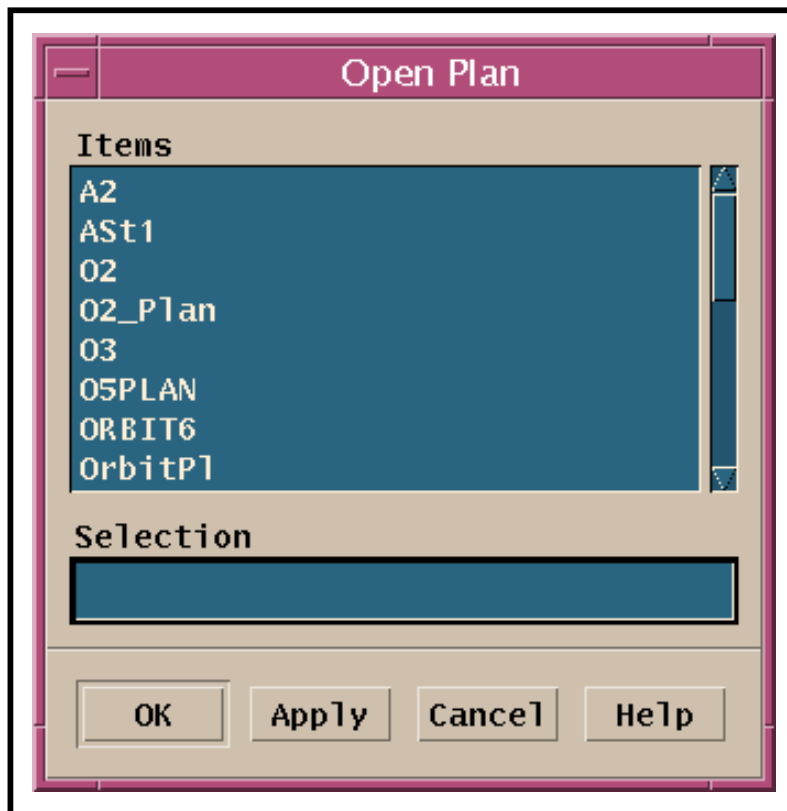

Figure 48. Open Plan Window
- The **Open Plan** window (Figure 48) is displayed.